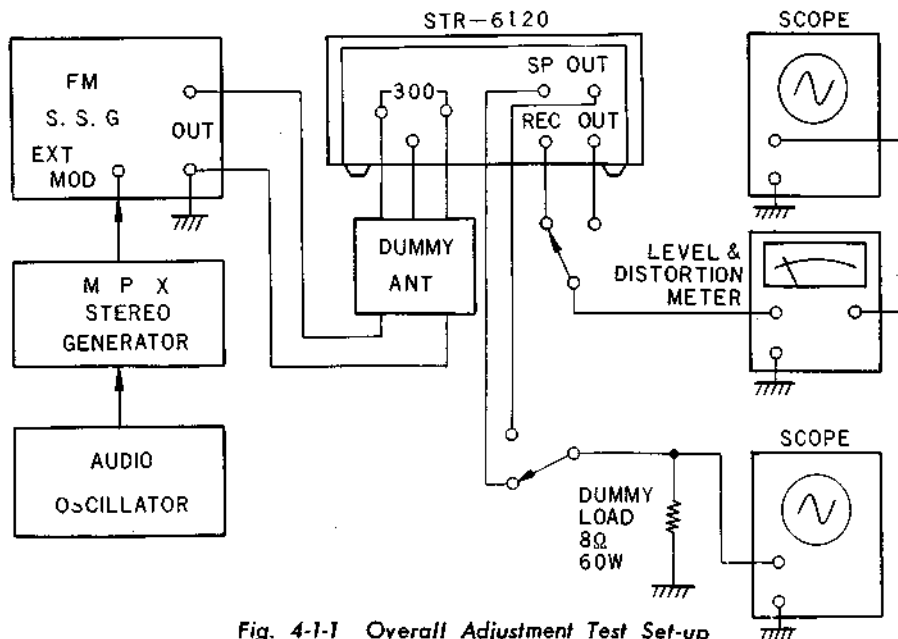

Fig. 4-1-1 Overall Adjustment Test Set-up
- (1) Connect the equipment as shown in Fig. 4-1-1.
- (2) Set the FM Signal Generator Frequency to 98 MHz, 400Hz, 100% modulation. Output level: 60 dB/ μ
- (3) Tune the receiver to 98 MHz and adjust the bottom core of IFT₃₀₁, the Discriminator Transformer, slightly for minimum distortion.
- (1) Connect the equipment as shown in Fig. 4-1-1; set the FM signal generator as follows:
- (a) With the equipment connected as shown in Fig. 4-1-1, set the MPX stereo generator controls as follows.
- (1) With the equipment connected as shown in Fig. 4-1-1, set the signal generator's controls
- (1) Muting Level Adjustment
- (a) With the equipment connected as shown in Fig. 4-1-1, set the FM signal generator as follows:
- (a) With the equipment connected as shown in Fig. 4-1-1, set the FM signal generator and receiver controls as follows:
- (1) With the equipment connected as shown in Fig. 4-1-1, set the FM signal generator and receiver's controls as follows:
1. With the equipment connected as shown in Fig. 4-1-1 and the power switch is in the ON position, feed a 1 kHz 0 dB signal to the TAPE input terminal through the attenuator.